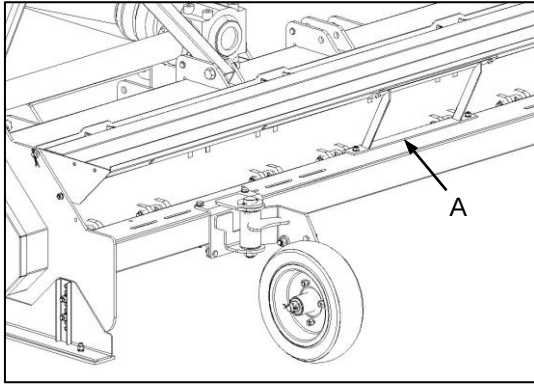

Fig. 1
➤ Discharge mode (Fig. 1)
- ✓ Discharge chute in the open position (Fig. 1), allowing material to be discharged to the rear immediately after having been cut.
- ⊖ When using the implement in this mode, the discharge chute support bracket (Fig. 1-A) MUST be in place. Failure to observe this requirement will result in structural and mechanical failure not covered under warranty.
➤ Ontladingmodus (Fig. 1)
- ✓ Afvoergeut in die oop posisie (Fig. 1), sodat gesnyde materiaal onmiddellik na agter ontlaai kan word.
- ⊖ Wanneer die implement in hierdie modus gebruik word, MOET die afvoergeutsteunstuk (Fig. 1-A) in posisie wees. Versuim om aan hierdie vereiste te voldoen sal tot strukturele en meganiese onklaarraking lei wat nie onder waarborg gedek word nie.
- ✓ Install the central chute support bracket (Fig. 1-A).
- ✓ Installeer die middelste geutsteunstuk (Fig. 1-A).